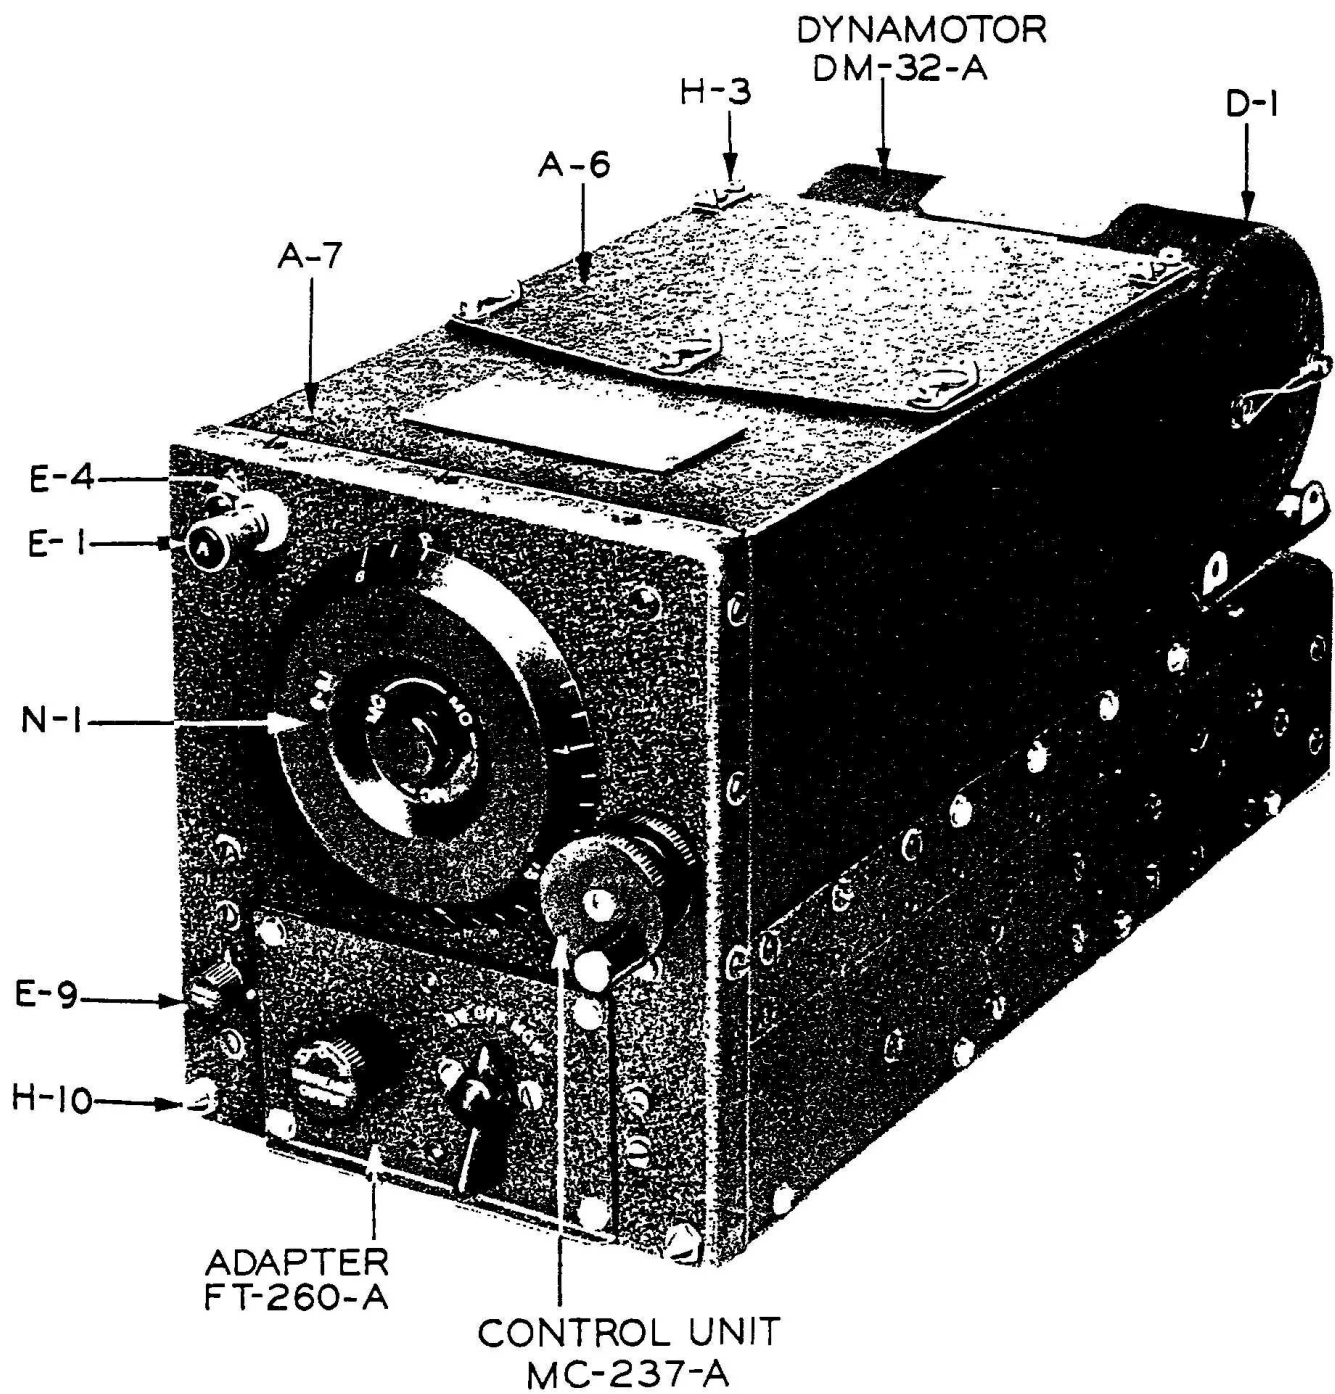

FIGURE 2—TYPICAL RADIO RECEIVER WITH ADAPTER FOR LOCAL CONTROL
(1) Radio Receivers BC-453-A (or -B), BC-454-A (or -B) and BC-455-A (or -B) are basically alike, as may be seen in the schematic wiring diagrams of Figures 37, 38 and 39 and each has the same complement of tubes performing identical functions. Any one of these receivers may be installed on Rack FT-233-A, any two on Rack FT-277-A or all three on Rack FT-220-A. Rack FT-264- ** provides for the installation of four receivers. Figure 26 is a schematic diagram of the receiving equipment of Radio Set SCR-274-N, including only Radio Receiver BC-455-B, Adapters FT-230-A and FT-260-A, Dynamotor DM-32-A, Rack FT-220-A and a cord for attachment to the primary source. The schematic circuit diagrams of Radio Receivers BC-453-B and BC-454-B (with adapters and dynamotors) were not included on this diagram because all circuits connecting with the rack are identical in all three units. For completeness, however, Figures 37, 38 and 39 show the schematic circuits and the practical wiring diagrams of the three receivers. Photographs of a typical receiver may be seen in Figures 2, 3 and 4.
(2) The radio frequency (r-f) part of these radio receivers consists of the following circuits and vacuum tubes, starting at the antenna: a tuned antenna input circuit, an r-f amplifier tube V-3 (Tube VT-131), a tuned r-f amplifier circuit, a mixer tube V-4 (Tube VT-132), and an r-f oscillator circuit. The antenna, the r-f amplifier and the r-f oscillator circuits are tuned by equal sections of a three-section gang capacitor C-4 (A, B, C). The plate current of mixer tube V-4 contains a frequency component which is equal to